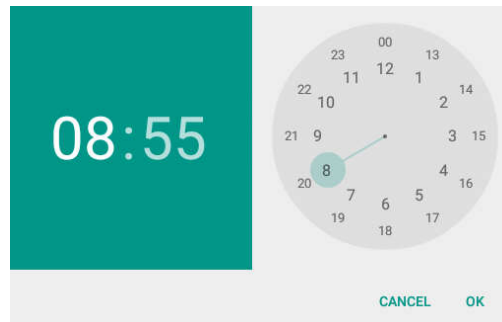

Fig 4.44 Set time
④“Set time”: Click it enter the time setting interface as Fig 4.44 below.